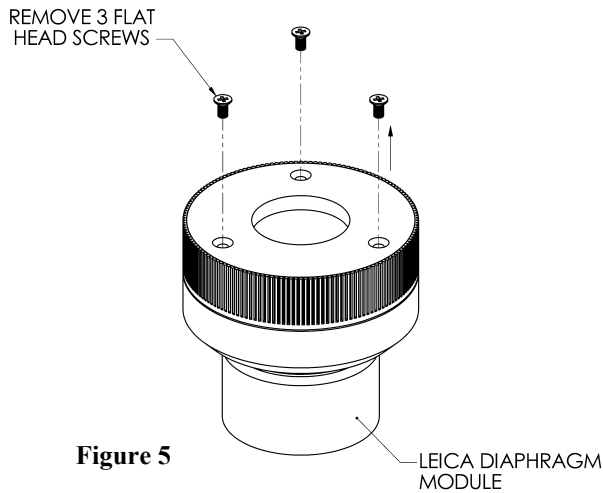

Figure 5
**Step One:** Remove Diaphragm Module from LEICA microscope and carefully remove three screws which secure Iris Diaphragm (see Figure 5).